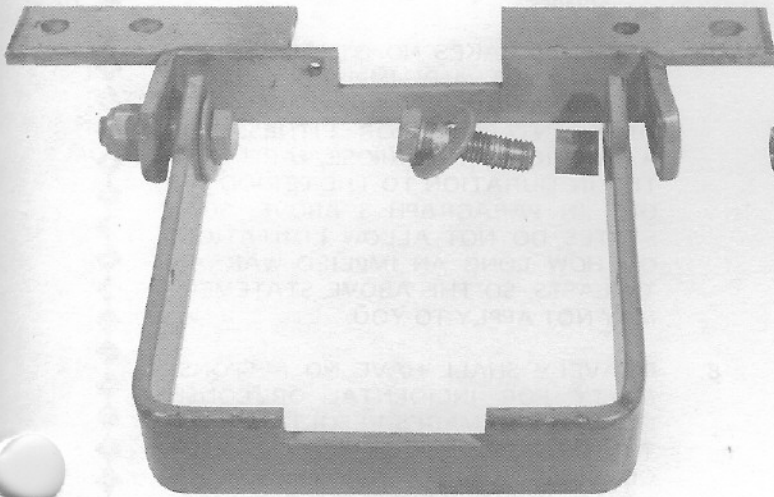

Fig. 2
1. Lay the stand bracket weldment (item 3) and jack stand (item 2) out with the cut-out up and align the bolt holes.
2. Insert a bushing (item 1) into each of the holes in jack stand.
3. Slide a washer (item 5) on bolt (item 6).
4. Put the bolt with washer through jack stand bushing and stand bracket weldment and secure with nut (item 10). See fig. 2.